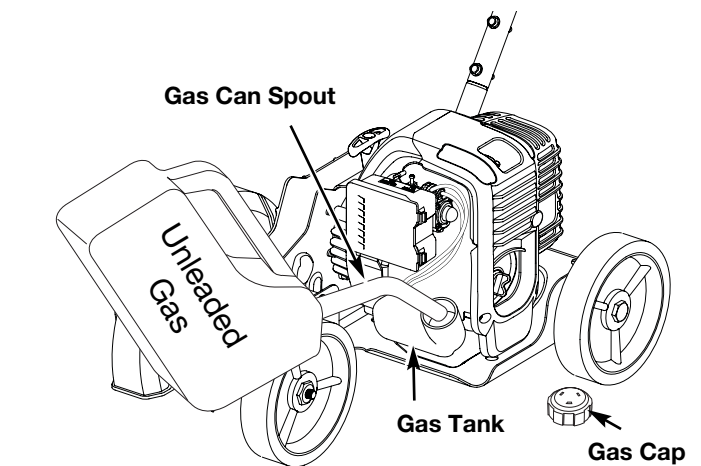

Fig. 7
2. Place the gas container's spout into the fill hole on the fuel tank (Fig. 7) and fill the tank.